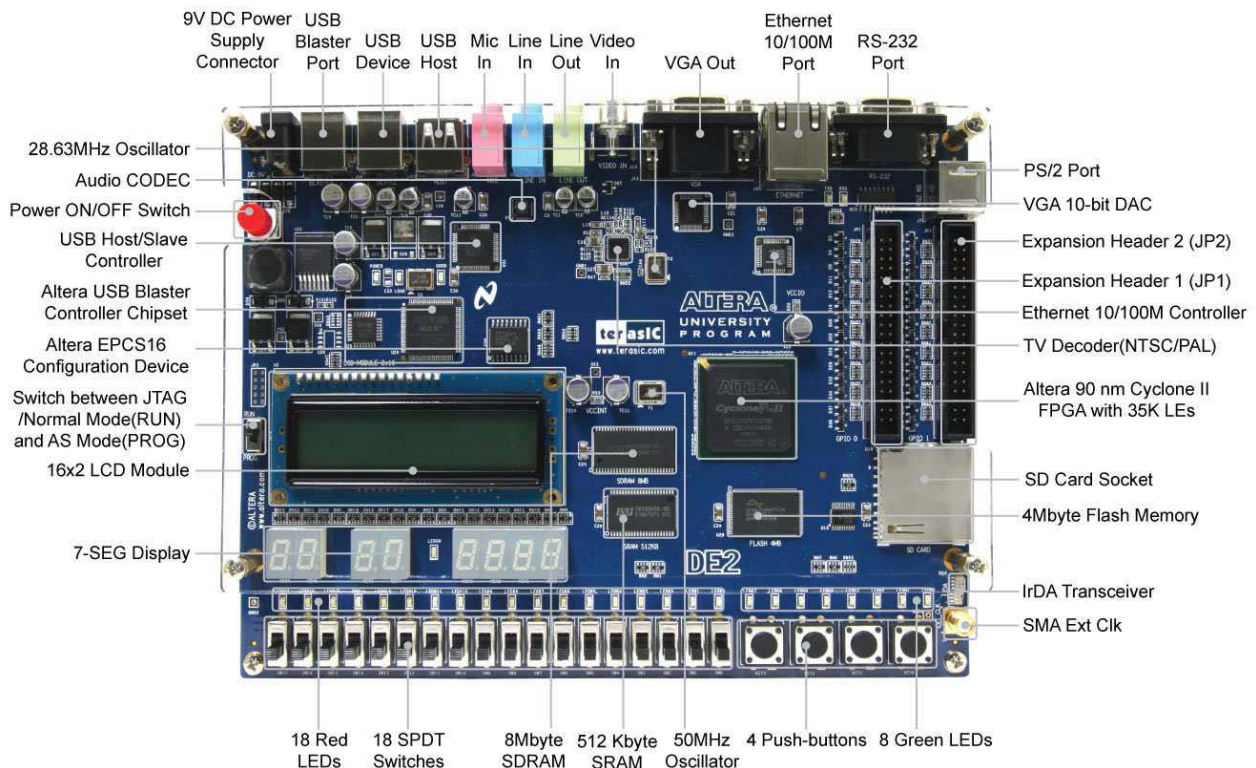

Figure 7-7
2. Connect the DE2 board to your computer using the supplied USB cable (USB blaster cable port is located in the right next to the power cable on the board). And turn on the DE2 power by pressing the red power button on the board (see Figure 7-7). You should be able to observe the followings: